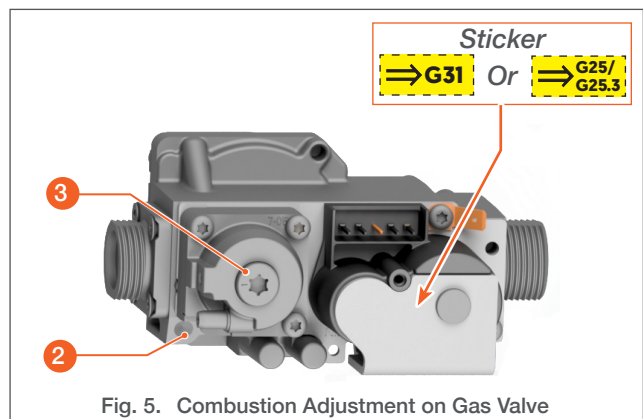

Fig. 5. Combustion Adjustment on Gas Valve
- › On the gas valve (Fig. 5), place the yellow sticker indicating that a gas conversion has been carried out.